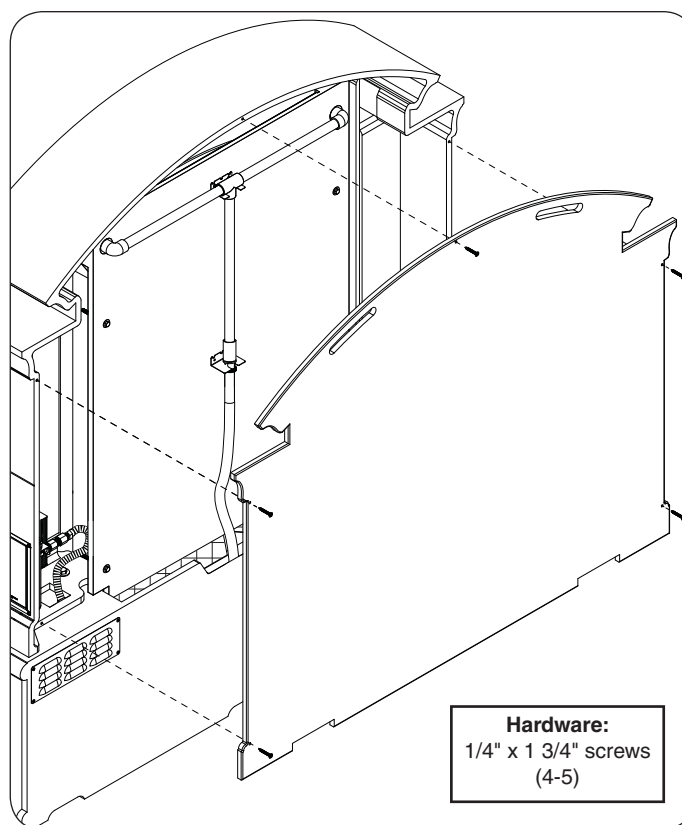

Fig. 26-2 Place outer rear-panel and fasten
2. Use a Phillips screwdriver and the supplied 1 3/4" concrete screws (4-5) to fasten the wall to the unit as shown in Fig. 26-2.